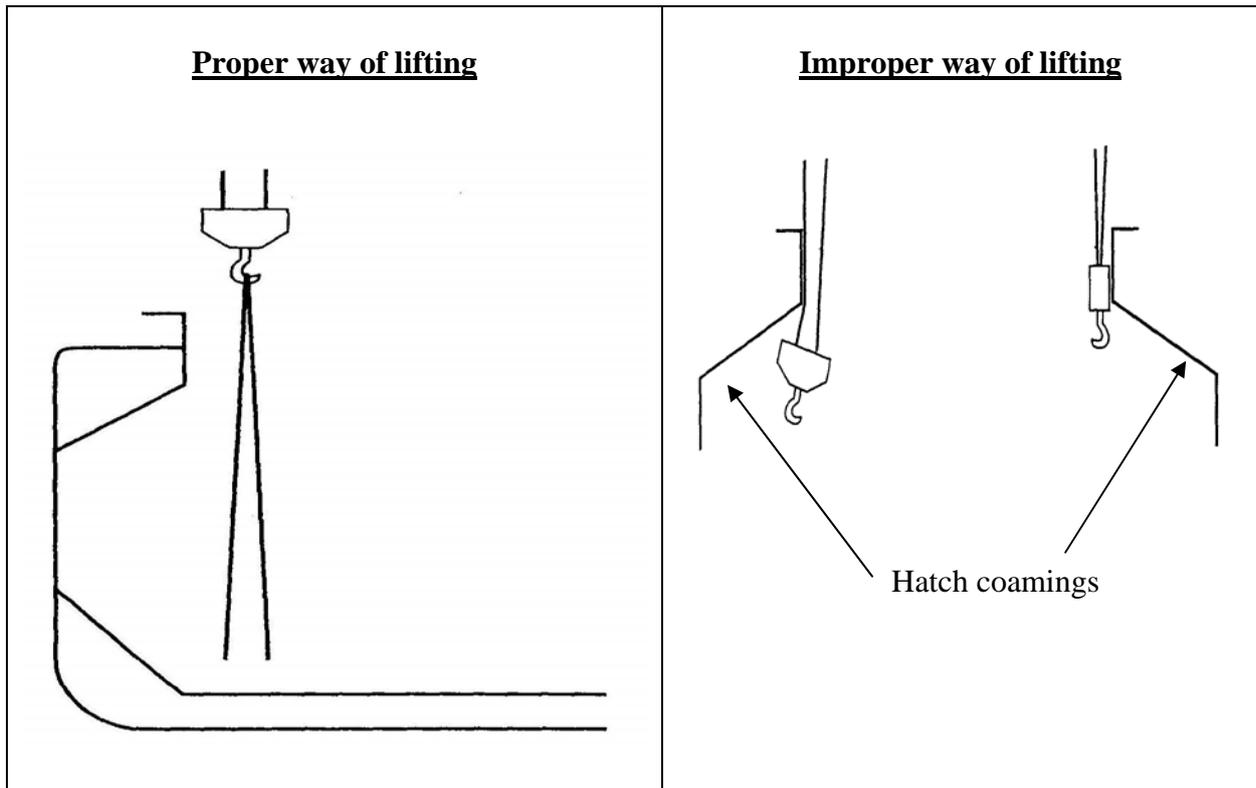

FIGURE 1.0
- e) Operator must ensure that the fall lines, shackles, hook block or grab, shackles or any other parts of the crane **do not** touch, rub or strike against any parts of the ship's construction/equipment like hatch coamings, hatch covers, ship's railing, etc. to avoid possible damage (please see figure 1.0 on page 3);